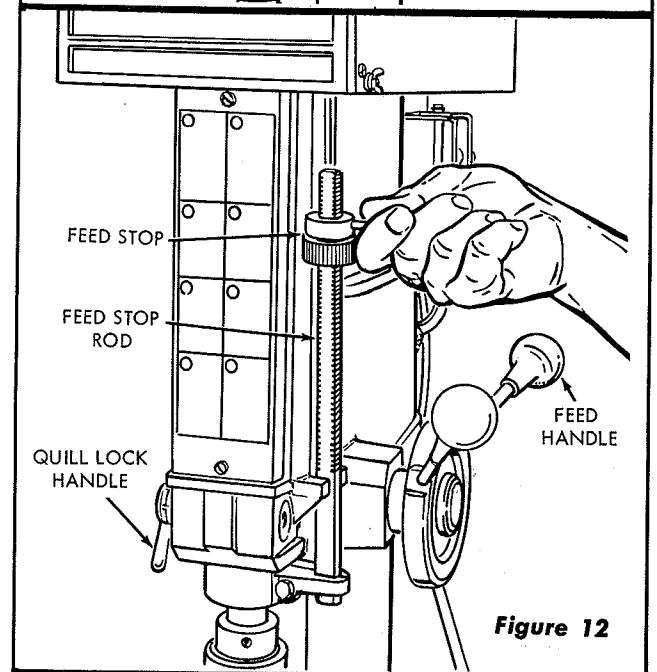

Figure 12
2. **Feed Stop.** The feed stop unit provides a means of pre-setting hole depths before drilling or for drilling several holes to the same depth. (See figure 12.) The feed stop handle (when tightened) holds the feed stop collar in place. The two pieces, as an assembly, can be moved on the stop rod for fast positioning by turning the unit a quarter turn and sliding it up or down to the approximate desired position. (See figure 12.) With the quill extended for maximum drill depth desired, the feed stop collar is
- 3. Feed Stop Rod.** This rod is a gauge, with six inches of 1/16-inch graduations, carrying the feed stop and lock nut. (See figure 12.)
- 4. Feed Handle.** The feed handle is used to raise and lower the chuck a total distance of six inches. (See figure 12.) It has an automatic spring loaded return action.
- 5. Quill Lock Handle.** The quill lock handle (when tight) holds the quill at any depth of cut for such operations as shaping, routing, surface grinding, etc. (See figure 12.) Always release the quill lock before attempting to raise or lower the quill.